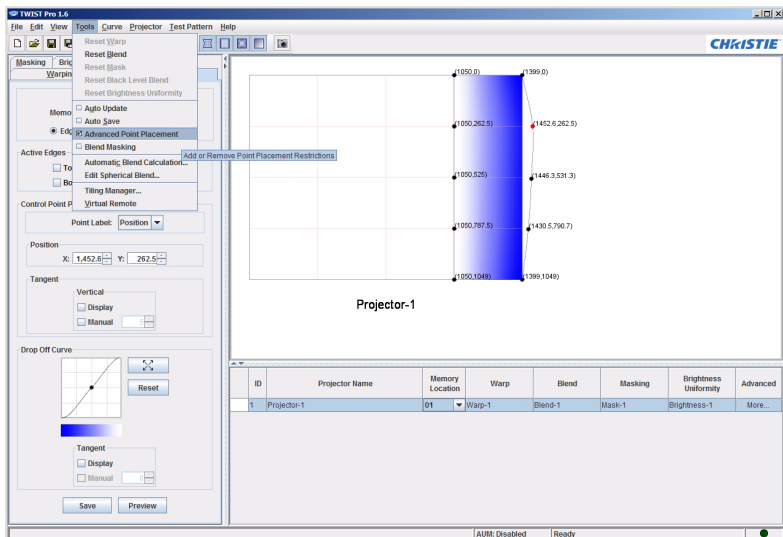

Figure 8-7 Advanced Point Placement
1. From the **Tools** menu, click **Advanced Point Placement** (Figure 8-7).